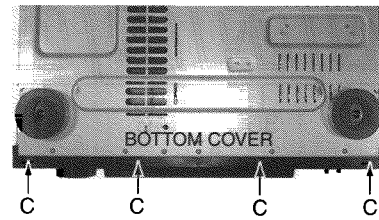

Fig.2
(2) Front panel assembly removal (Fig.2,3)